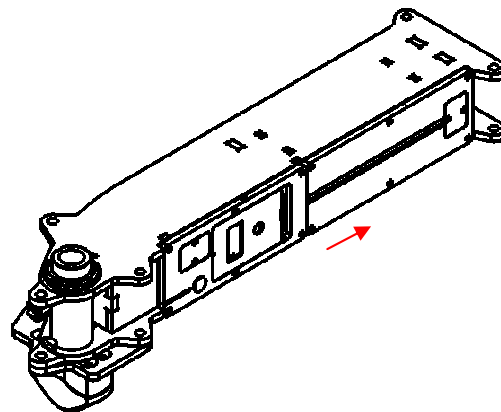

Figure 7 – Slide battery
2. Slide the battery into position, until the positioner holds it in place (*Figure 7 – Slide battery*).